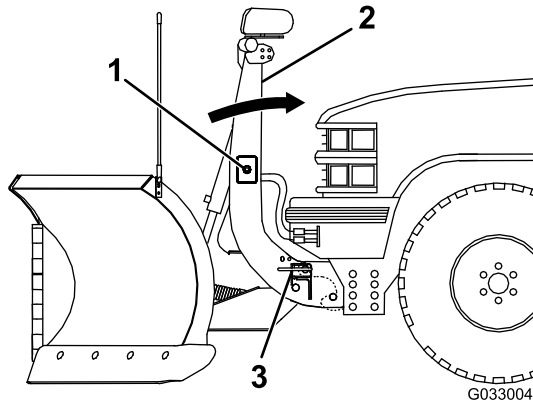

Figure 21
- Push the SmartHitch2 switch on the side of the coupler tower upward and raise the tower until the coupler spring pins snap in (Figure 21).